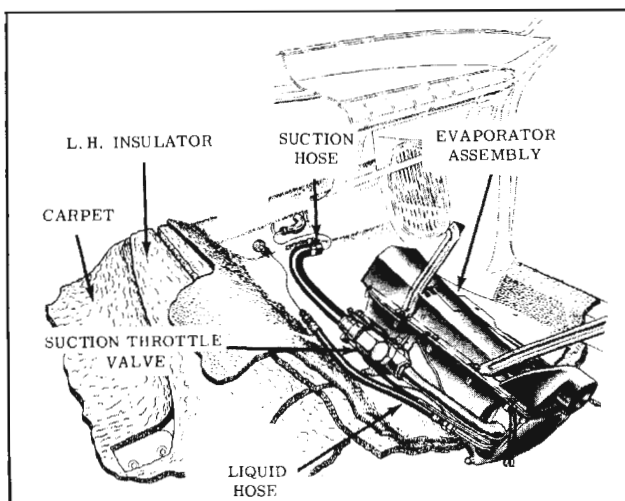
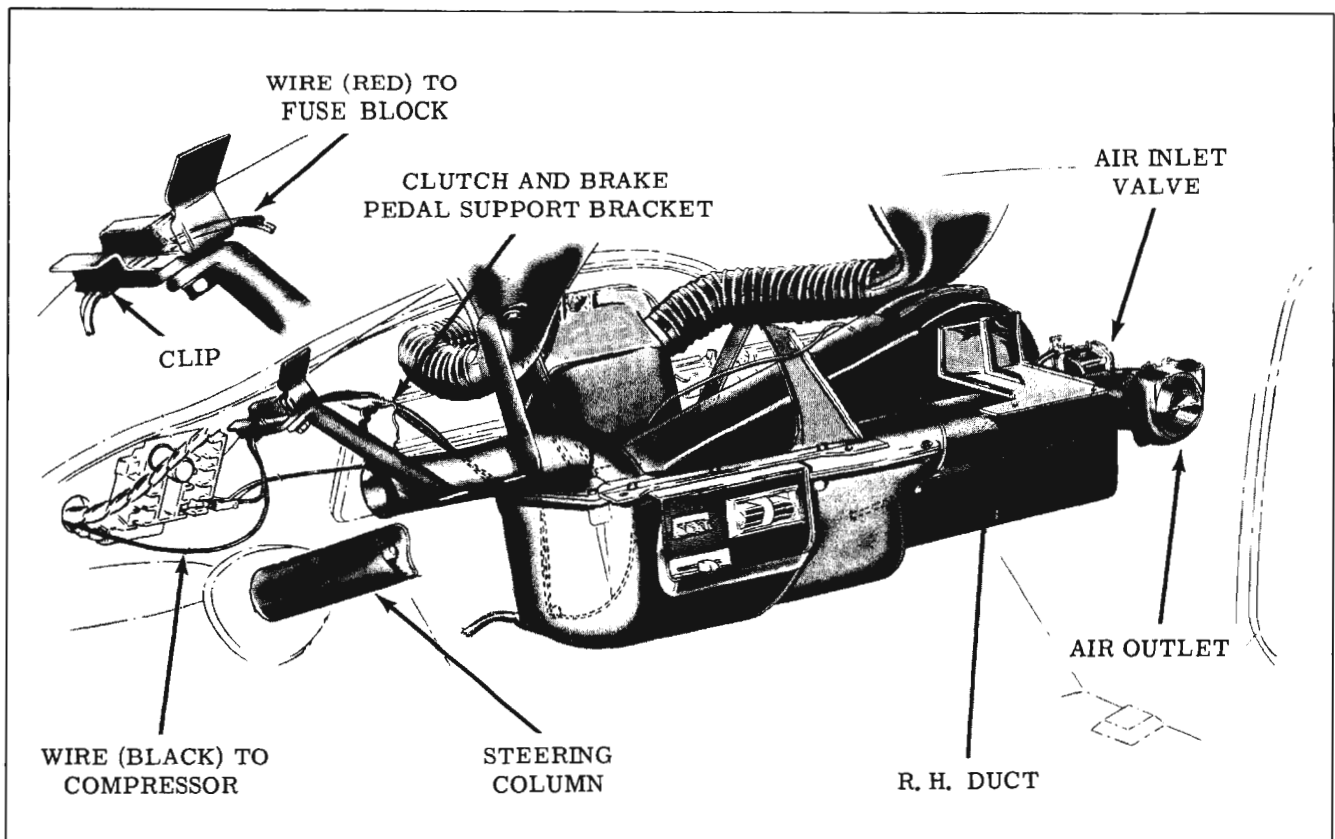

Fig. 15-126 Removing Suction Throttling Valve
Fig. 15-128 Air Conditioner Wiring
2. Swing the assembly to the side as shown in Fig. 15-126. Disconnect the control cable, equalizer line and suction line. Remove the valve to case attaching screws.
2. Disconnect evaporator wiring. (Fig. 15-128). Disconnect two drain hoses at back of evaporator. Disconnect left hand outlet duct from case. Remove right hand and left hand rear bracket to case screws. Remove two front case bracket to instrument panel screws. Lower case assembly and swing the assembly to the side. (Fig. 15-126 & 129)